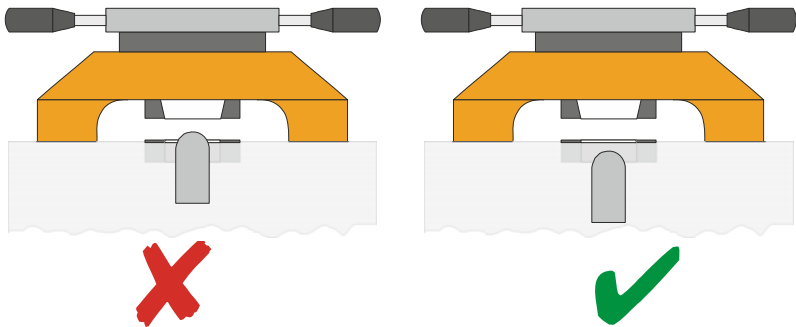

Figure 4. Set punch below top of die
2. Ensure the top of the punch is below the top of the die, see Figure 4 on page 7.
2. Ensure the punch is below the level of the top of the die (see Figure 4).